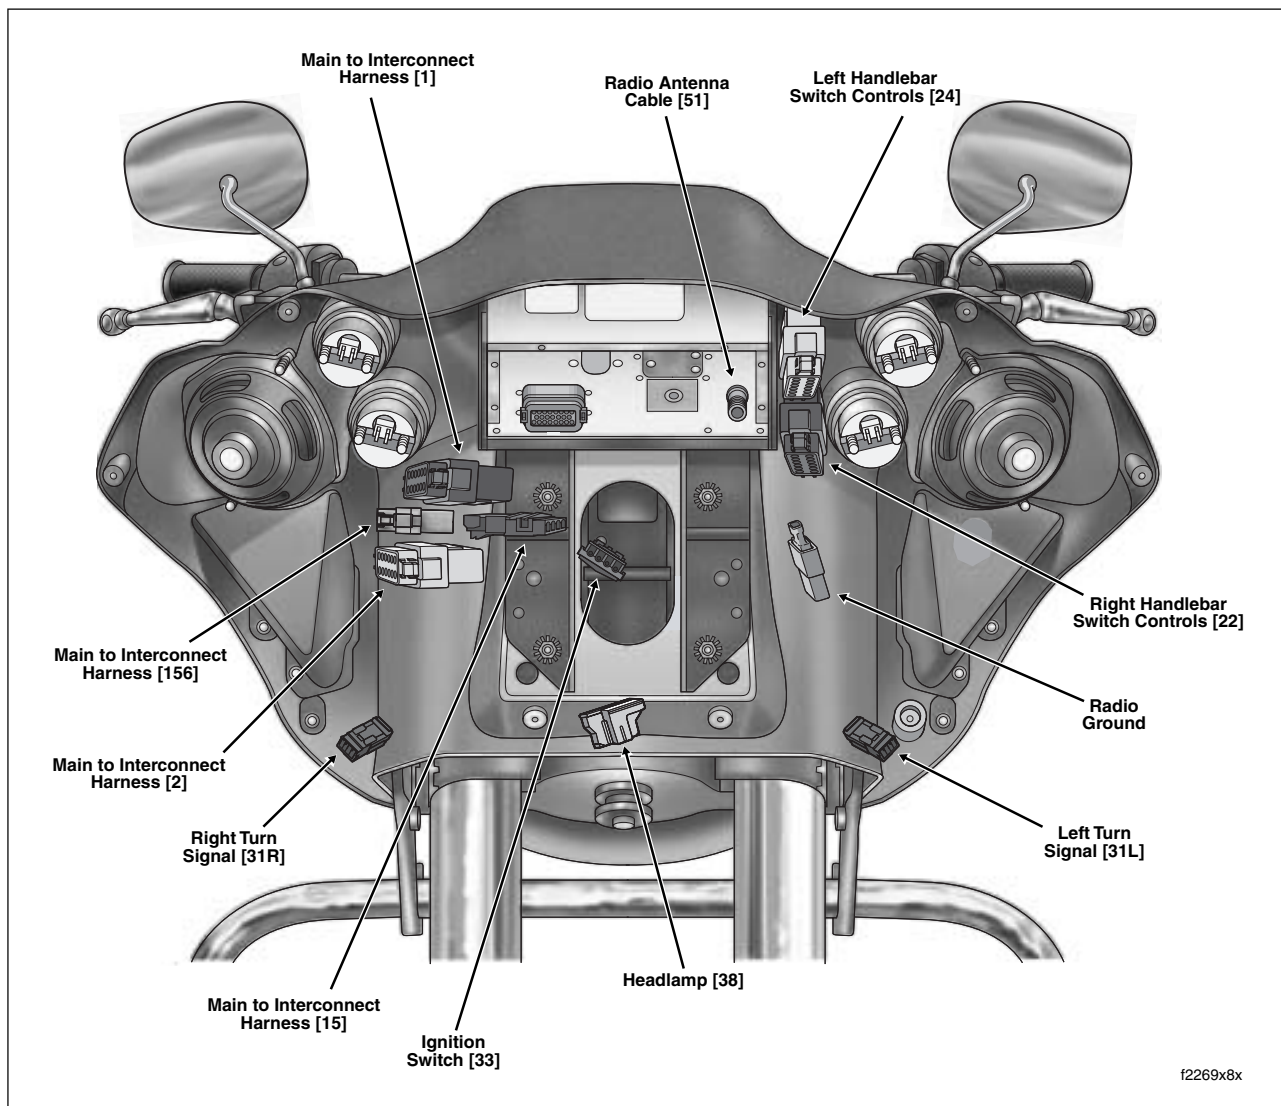

Figure 2-168. Inner Fairing Connections (FLTR)
7. See Figure 2-168. Disconnect instrument nacelle switches from interconnect harness as follows:
2. See Figure 2-168. Connect instrument nacelle switches to interconnect harness as follows:
4. See Figure 2-168. Connect left side switch to instrument nacelle switch harness as follows:
4. See Figure 2-168. Disconnect main harness from interconnect harness as follows:
5. See Figure 2-168. Disconnect ignition switch from main harness. Disconnect radio antenna cable. Proceed as follows:
6. See Figure 2-168. Disconnect handlebar switch controls from interconnect harness. Disconnect radio ground. Proceed as follows:
14. See Figure 2-168. Connect handlebar switch controls to interconnect harness. Connect radio ground. Proceed as follows:
15. See Figure 2-168. Connect main harness to interconnect harness as follows:
16. See Figure 2-168. Connect ignition switch to main harness. Connect radio antenna cable. Proceed as follows:
17. Loop wire bundles and conduit as necessary to orient connectors as shown in Figure 2-168. Install two **new** cable straps, one near the end of the left side loop and another near the end of the right side loop. Cut any excess cable strap material.